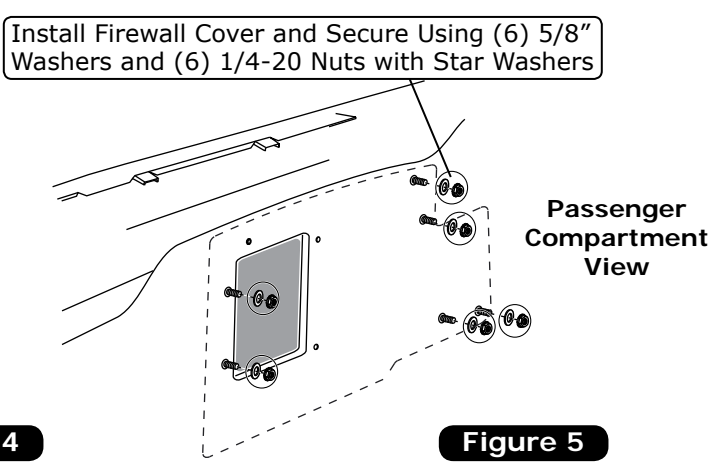

Figure 5
7. Install the firewall cover and secure it using (6) 5/8" washers and (6) 1/4-20 nuts with star washers (See Figure 5, below).